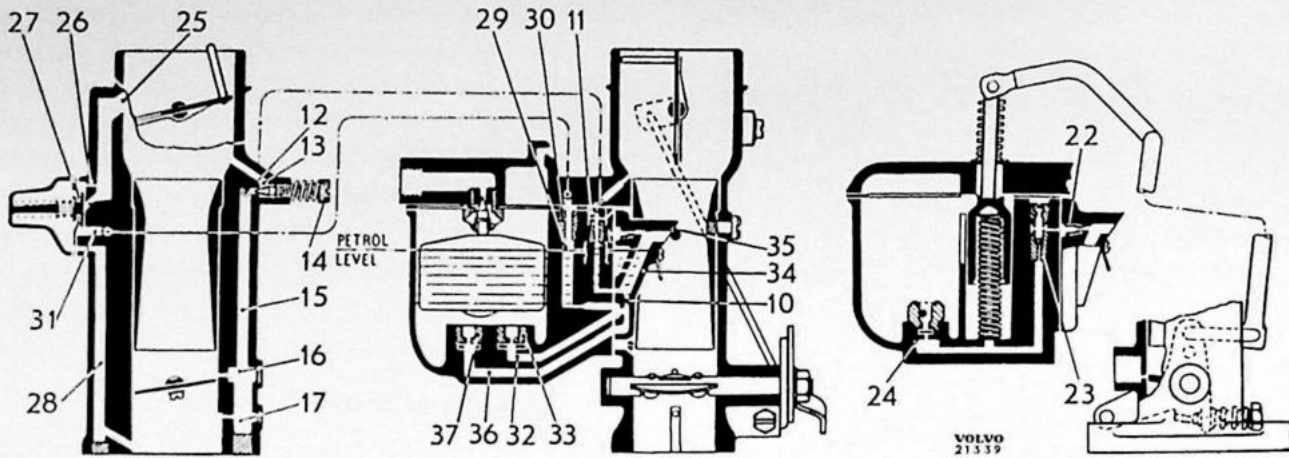
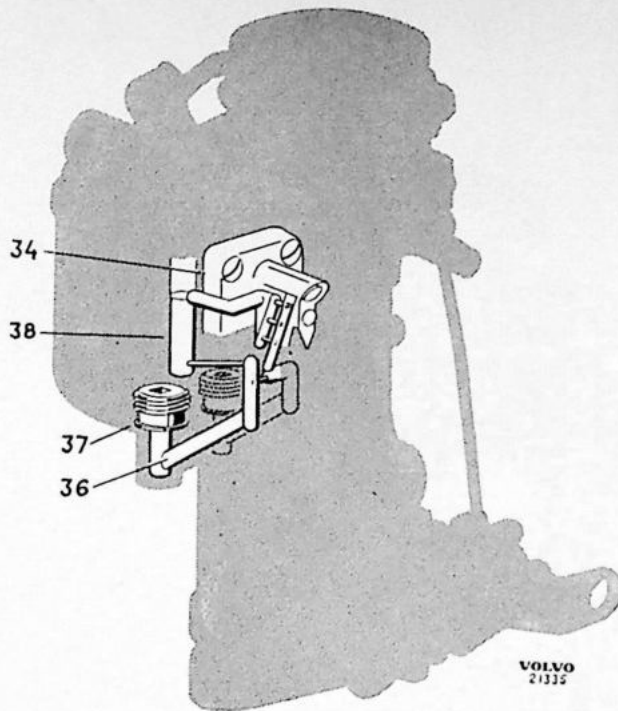

Fig. 15. Phantom view of carburetor.
Fig. 22. Compensating system.
The main jet is dimensioned to be able to supply normal fuel requirements, but the richer "power" mixtures needed with wide-open throttle and high-speed operation call for additional fuel to be supplied by a compensating jet (37), Fig. 22. The compensating jet communicates with the emulsion block (34) via a passage (36), which also connects with a vertical passage (38) (29, Fig. 15), called the capacity well. At the upper end of the capacity well are two passages which are part of the above-mentioned connection between the economiser valve and the emulsion block. The fuel in the capacity well is normally